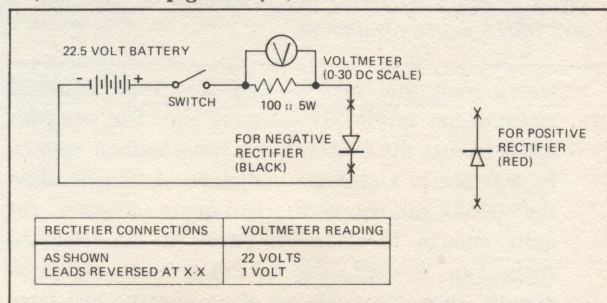

FIG. III-32. SILICON RECTIFIER DIODE VOLTAGE CHECK SCHEMATIC.
2. An alternate method of checking the individual rectifiers can be done with the setup shown in Fig. III-32. The braided terminal must be disconnected to make this test.